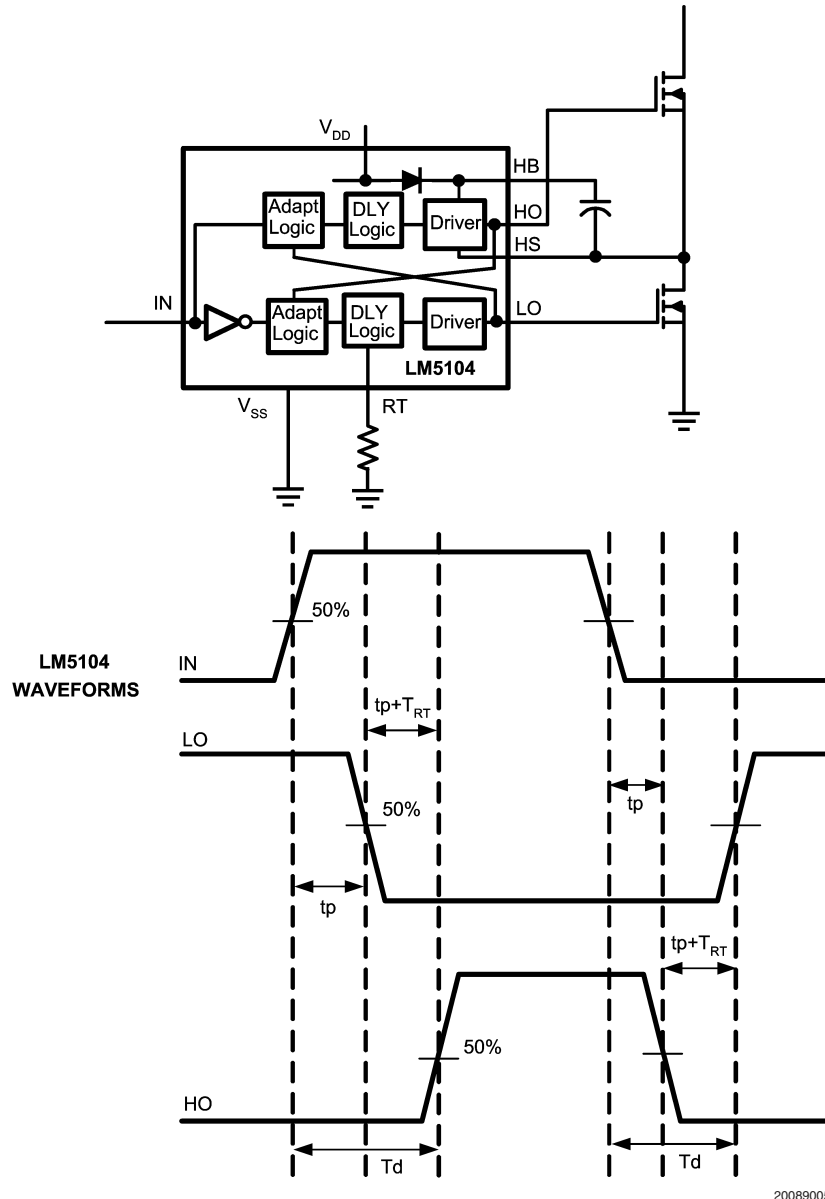

FIGURE 3. Application Timing Waveforms
LM5104 is a high voltage, high speed dual output driver designed to drive top and bottom MOSFET's connected in synchronous buck or half-bridge configuration, from one externally provided PWM signal. LM5104 features adaptive delay to prevent shoot-through current through top and bottom MOSFETs during switching transitions. Referring to the timing diagram *Figure 3*, the rising edge of the PWM input (IN) turns off the bottom MOSFET (LO) after a short propagation delay (t_p). An adaptive circuit in the LM5104 monitors the bottom gate voltage (LO) and triggers a programmable delay generator when the LO pin falls below an internally set threshold (≈ V_{DD}/2). The gate drive of the upper MOSFET (HO) is disabled until the deadtime expires. The upper gate